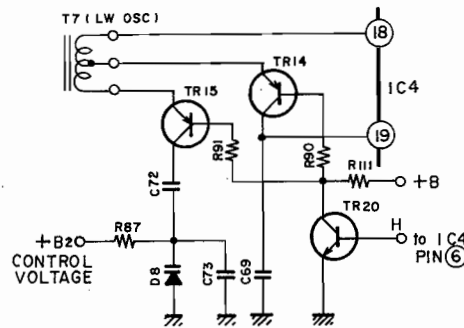

Fig. 6-8 LW OSC
- 2) For LW, the pin ⑥ of IC4 is at "H" level and the reverse operation to Paragraph 1 is conducted. This means T7, C69, C72, C73 and D8 are connected to create the LW OSC state (refer to Fig. 6-8).